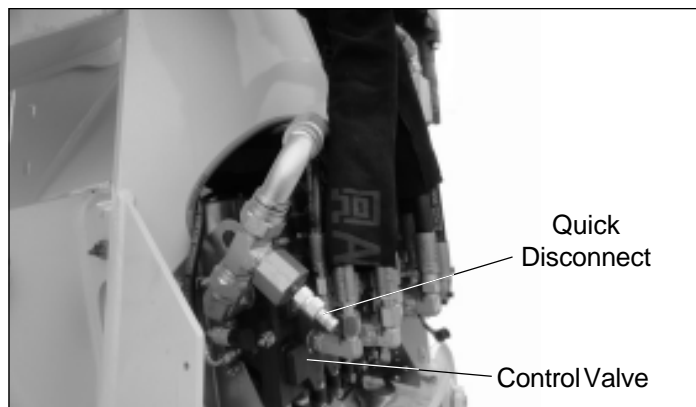
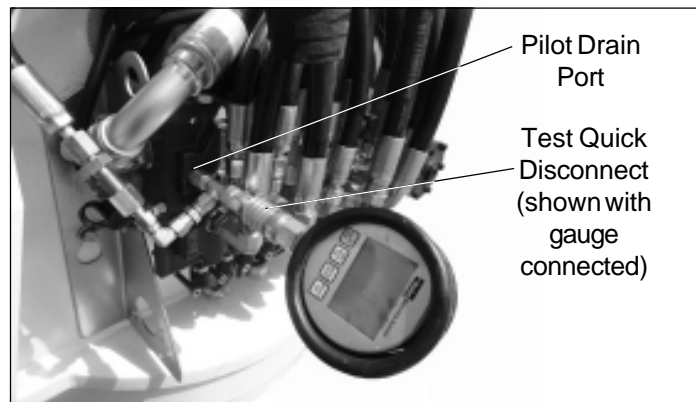

Figure 1 — Quick Disconnect On Return Plumbing
Figure 2 — Gauge On Pilot Drain Quick Disconnect
4. Locate the tank pressure quick disconnect. Depending on the design of the valve, this quick disconnect will be located either on the large tee in the return line located to the left of the lower control valve (refer to Figure 1) or on the small tee in the external pilot drain port located in the upper left corner of the lower control valve (refer to Figure 2). If the unit is not equipped with a tank pressure quick disconnect, order and install Return Pressure Quick Disconnect Kit, part number 970457959, before continuing with Step 5.
5. Attach the pressure gauge to the tank pressure quick disconnect (refer to Figure 1 or 2). Turn the gauge on, and zero it if it is not showing zero.